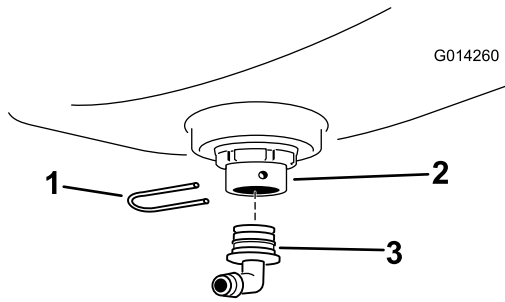

Figure 5
6. Install a 90° barbed fitting to the bulkhead fitting and secure it with a fork pin (Figure 5).